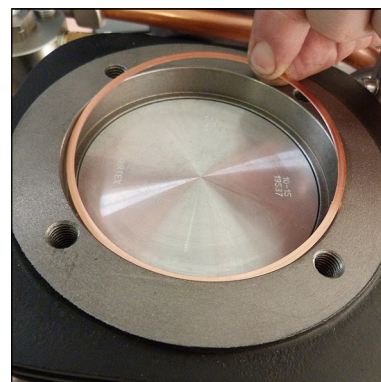

Fig. 3 - Copper valve ring
- CAUTION: Observe that the lower copper valve ring is also pulled out. It can still stick inside the cylinder (Fig. 3).